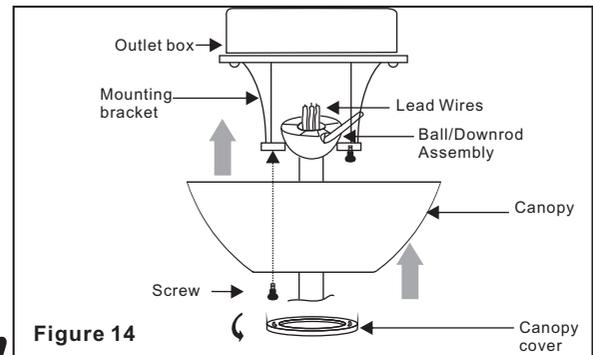

**Figure 13**
Step 5. Turn the connecting nuts upward and push the wiring into the outlet box. Figures 12 and Figures 13 illustrate the wiring connections for optional wall control (available at your Hampton Bay Retailer, the wire color out of wall control may vary, see wall control's installation manual for correct wire connections)